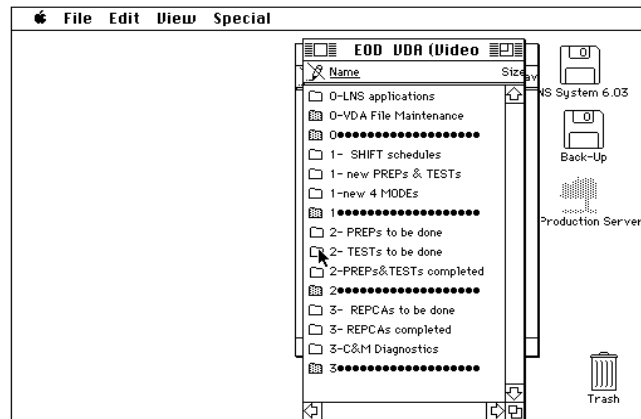

Figure 11
12.1 Position the mouse pointer on the "2-TESTs to be done" folder and double click to open it. See Figure 11.